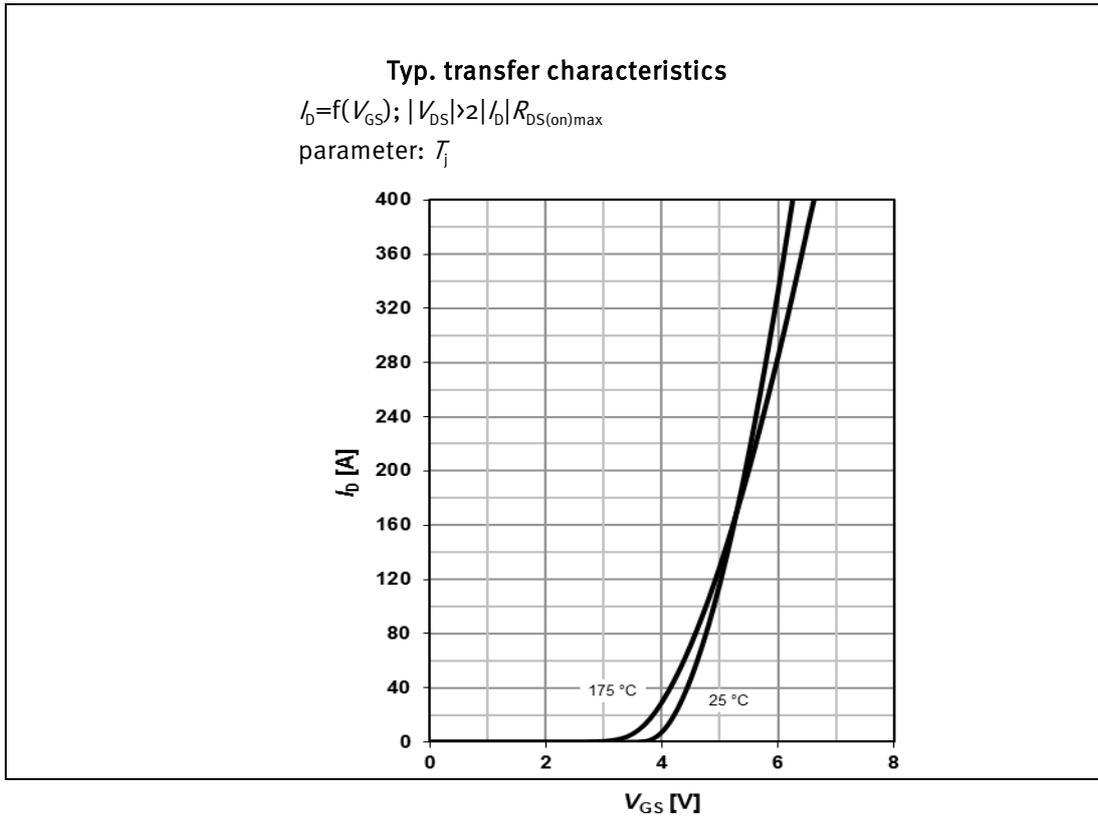

Figure 11 Typical transfer characteristics $I_D=f(V_{GS})$
This diagram shows the typical drain current as a function of the applied gate-source voltage. Normally the graphs at different junction temperatures are given. For example, Figure 11 has one curve at 25°C and the other at 175°C. All the graphs should intersect at one point, the so-called temperature stable operating point.
The forward transconductance (g_{fs}) can be calculated from the typical transfer characteristics diagram from Figure 11 using eq. (8).